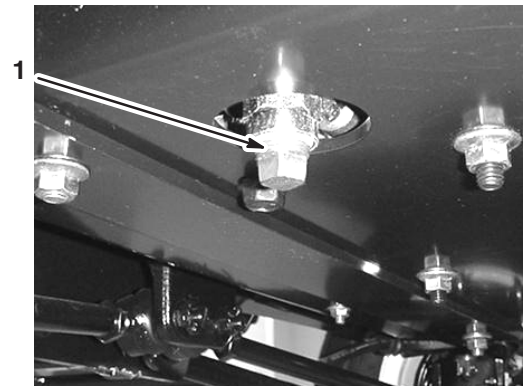

Figure 34
5. Remove the drain plug (Fig. 34).